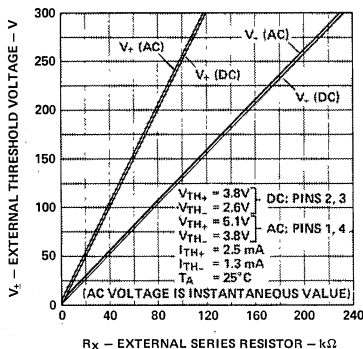
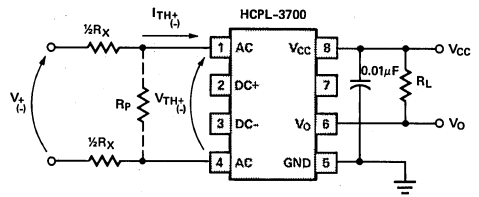

Figure 11. Typical External Threshold Characteristic, V_{\pm} vs. R_x .
Figure 12. External Threshold Voltage Level Selection.
The HCPL-3700 optocoupler has internal temperature compensated, predictable voltage and current threshold points which allow selection of an external resistor, R_x , to determine larger external threshold voltage levels. For a desired external threshold voltage, V_{\pm} , a corresponding typical value of R_x can be obtained from Figure 11. Specific calculation of R_x can be obtained from Equation (1) of Figure 12. Specification of both V_+ and V_- voltage threshold levels simultaneously can be obtained by the use of R_x and R_p as shown in Figure 12 and determined by Equations (2) and (3).